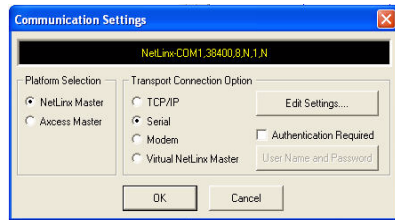

FIG. 38 Communications Settings dialog
- Click the **Communications Settings** button to open the *Communications Settings* dialog (FIG. 38).